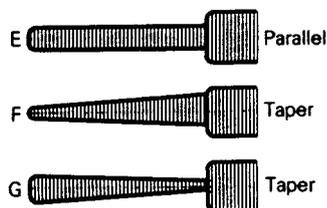

Fig. 4-11(D) Minimum Waveform Output (Standard waveform)
- If the FM waveform is similar to (C) or (D) in Fig. 4-11(C) adjust the height of the take-up guide roller until it becomes like (E), (F) or (G) in Fig. 4-11(D). If the waveform fluctuates, adjust to the minimum point of fluctuation.